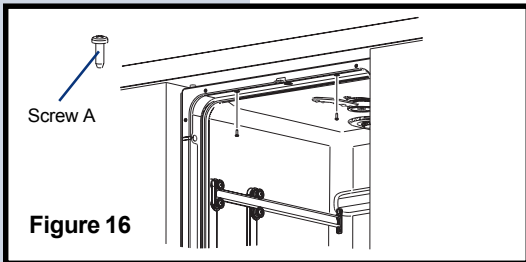

Figure 16
- 2 Secure brackets to countertop using provided screws (labeled Screw A, **Figure 16**). **See Figures 16 and 17.**